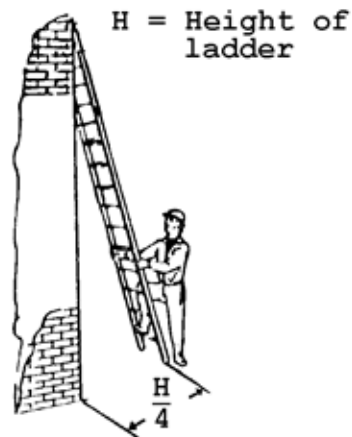

FIG 26.
- Stand the ladder on a firm and level surface with the bottom one quarter of its own height away from the structure. (Fig 26)